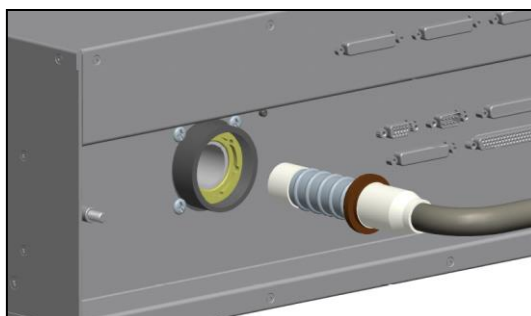

Figure 4-20. Connect the ribbed contact of the high voltage cable to the rear of the X-ray high-voltage controller unit.
3. Remove transportation cover and connect the high-voltage cable to the X-ray high-voltage controller (Figure 4-20).